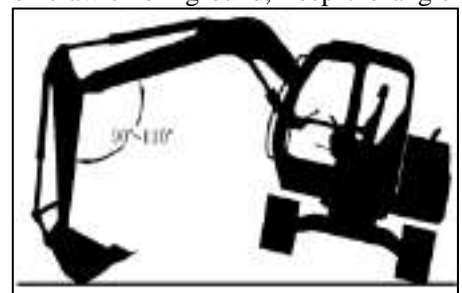

Figure 3.6.8
- (c) Place chock under the framework to support machine.(Figure 3.6.8)